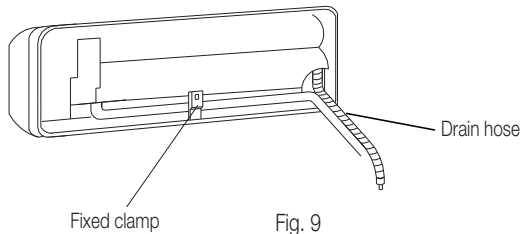

Fig. 9
2. Connecting left back tube (similar to left lower tube). (Optional, Refer to Fig. 9)
Right chart is available for the position of drain hose, refer to Fig. 9.